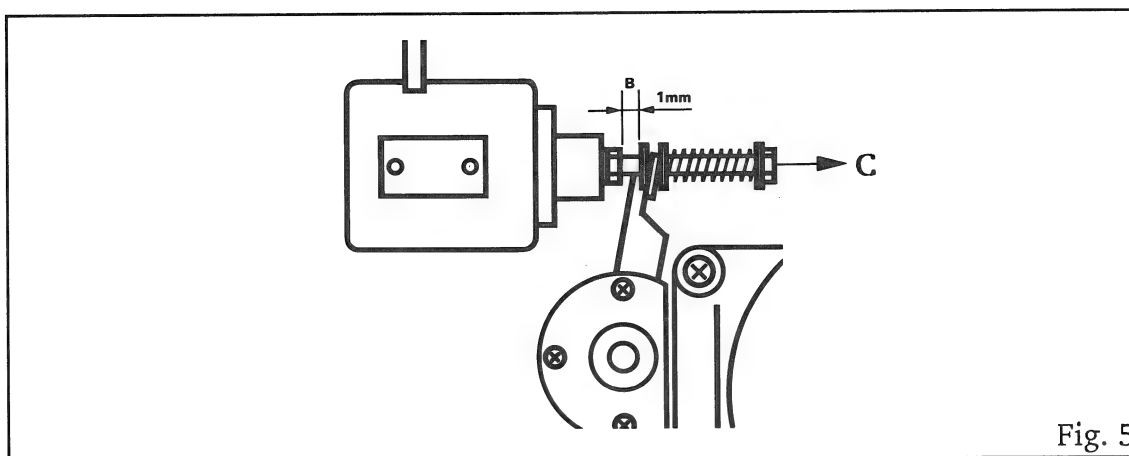

Fig. 5
- Shift the pinch roller solenoid to the right so that a clearance B of 1 mm (Fig. 5) is created between the driver and the pinch roller arm. Fasten the pinch roller solenoid.
- Secure the screws of the pinch roller solenoid with a drop of locking paint. Check the pinching force and adjust if with screw C (Fig. 5), if necessary.